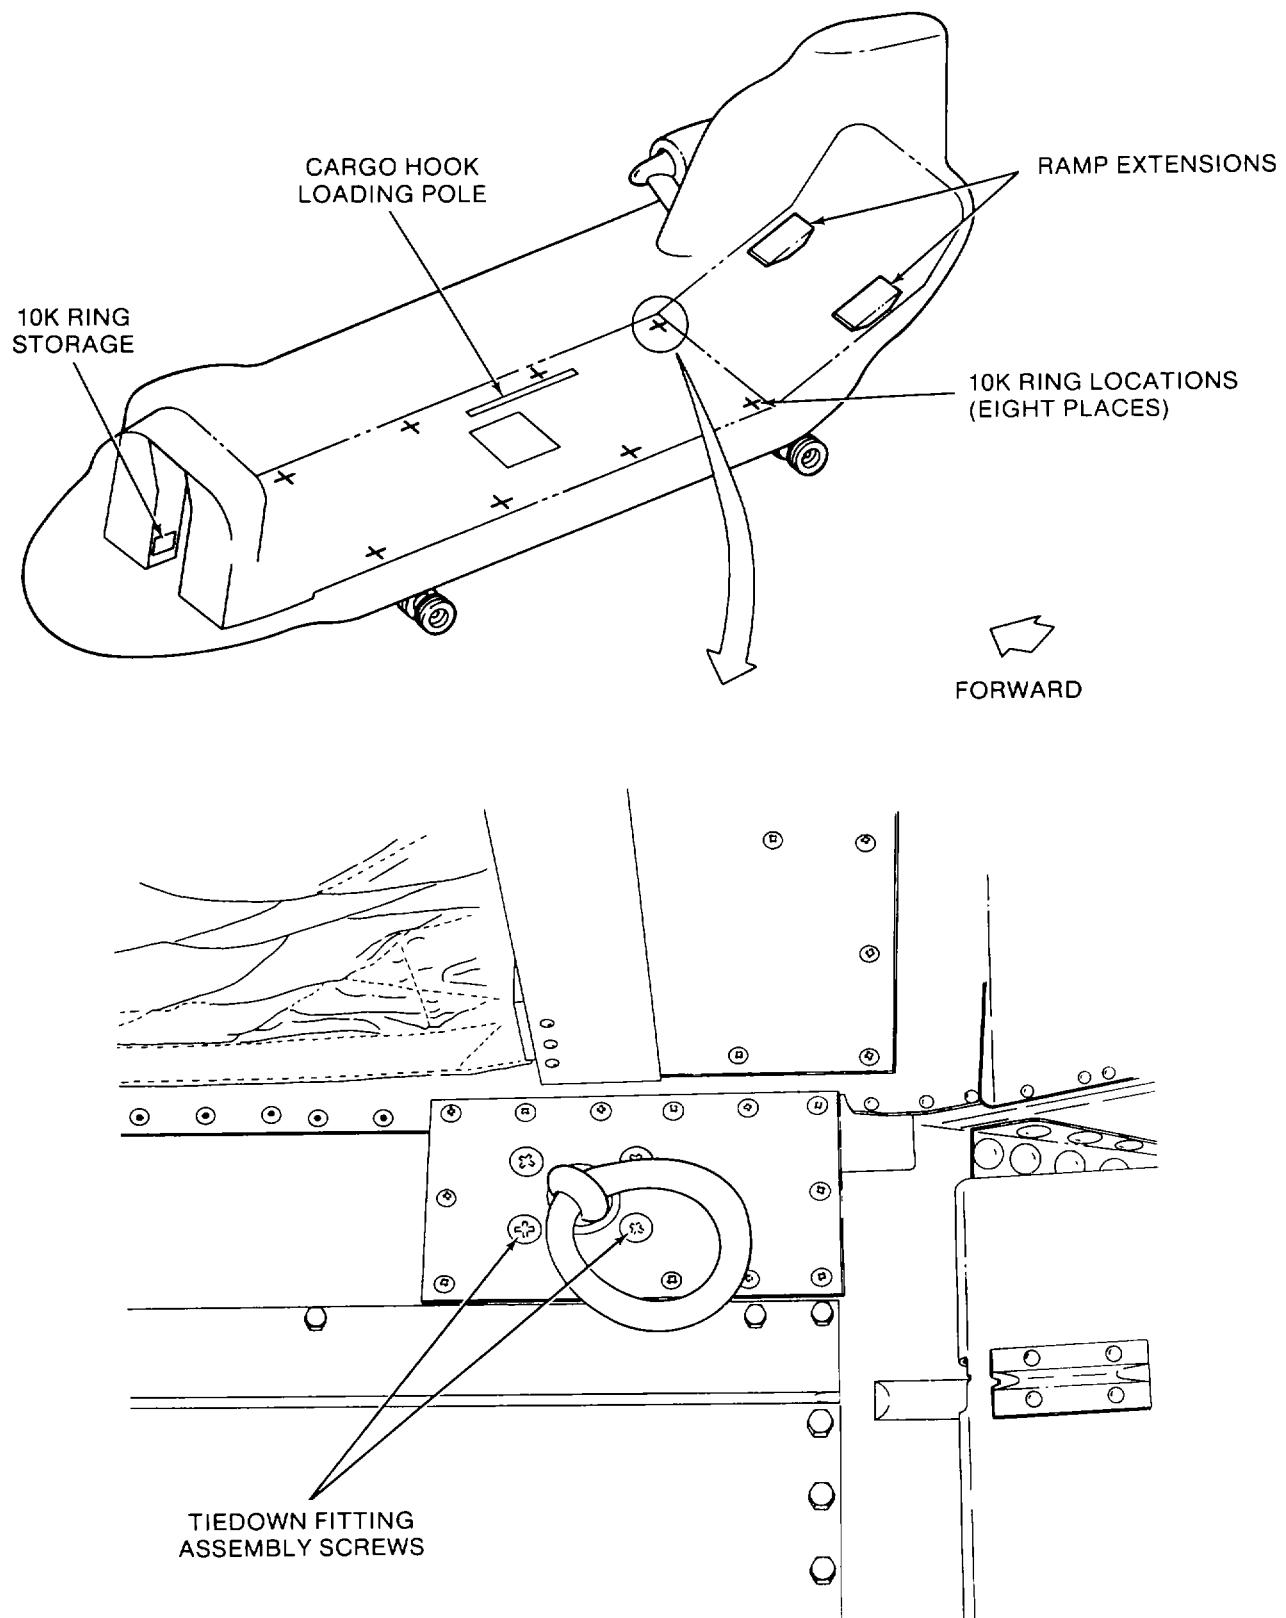
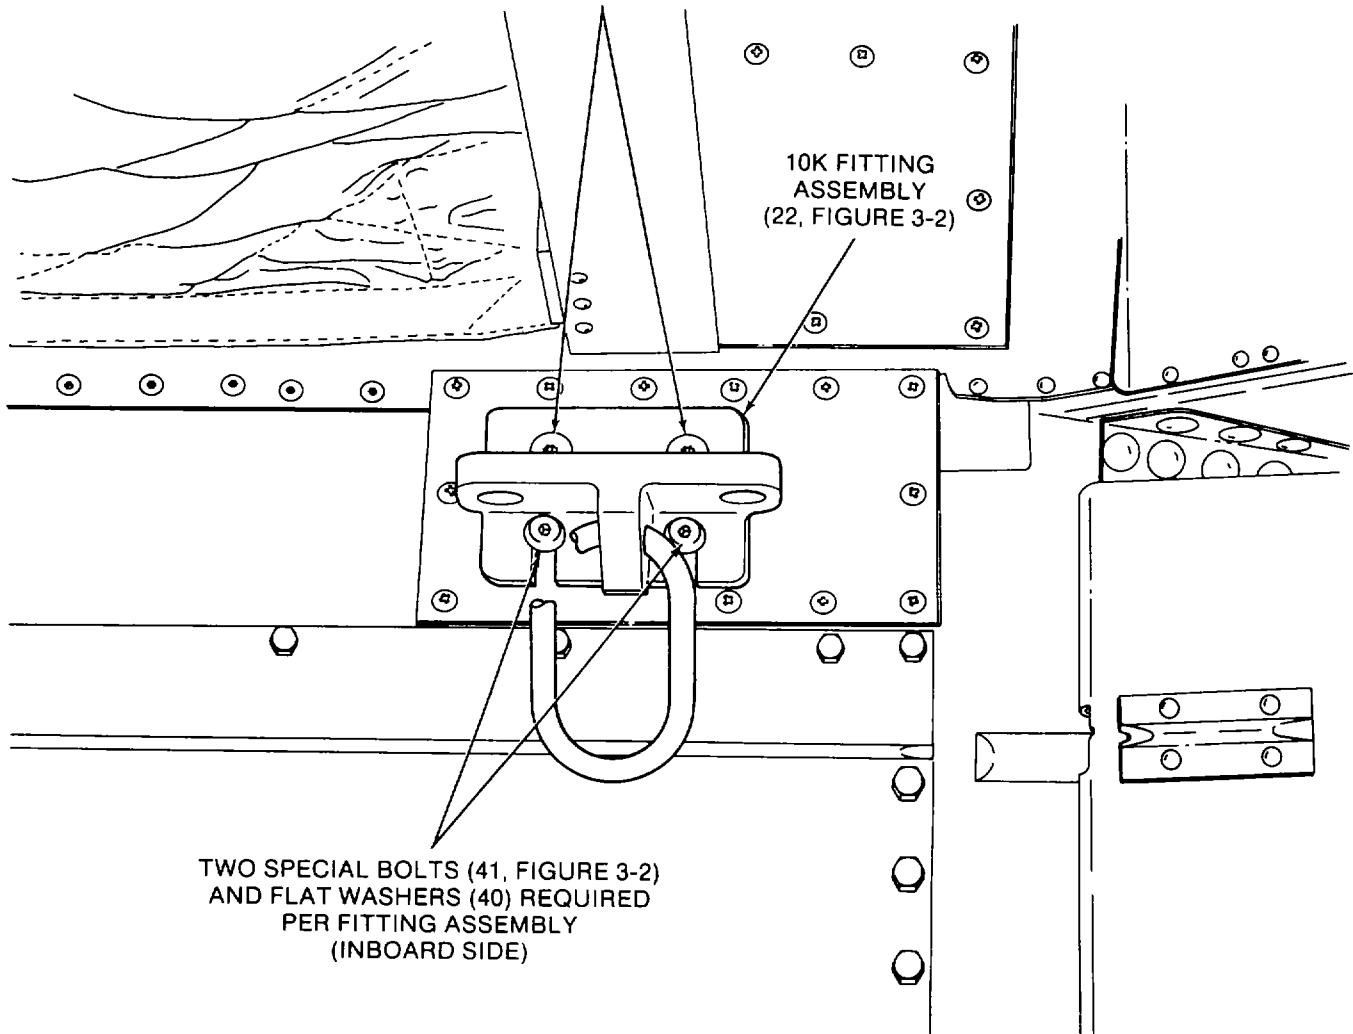

Figure 2-3. 10k Ring Locations
Figure 2-4. 10k Fitting Assembly Installed
(1) A new cargo handling system has just been installed.
(2) A cargo system has been removed from storage and installed.
(3) A system has been idle in an out-of-service aircraft.
(4) Maintenance has recently been performed and the system has not been inspected.
(5) A system appears to function improperly.
b. *Inspection Criteria.* A general inspection should be accomplished for any one of the reasons indicated in paragraph 2-4a. Inspect regularly to maintain the Helicopter Internal Cargo Handling System in good working condition. Make certain that all components shown in the table are accounted for in either the installed or stowed locations as applicable. (Refer to Table 2-1.) Then inspect the system against Figures 2-4 through 2-21 to make certain that all system components are properly installed. Check outboard rail/roller assemblies (1 through 6, Figure 3-2), inboard guide/roller assemblies (9 through 12), inboard ramp/roller assemblies (13 and 14), ramp guide rail/roller assemblies (7 and 8), and ramp extension roller assembly (15) for cracks or breaks. No cracks or breaks are allowed.
(2) Remove eight 10k rings by unscrewing from fitting assemblies (Figure 2-3).
(3) The four screws securing each 10k tiedown fitting assembly (Figure 2-3) should be removed. Remove one of the inboard screws holding the 10k tiedown fitting assembly. Install one of the two special bolts (41, Figure 3-2) and flat washer (40) to keep the tiedown adapter aligned with holes.
(4) Remove the remaining screws holding the 10k tiedown fitting assembly. Stow the 10k rings and screws in a secure place aboard the aircraft (Figure 2-3).
(5) Install eight 10k fitting assemblies (22, Figure 3-2) at the eight locations from which the 10k rings and screws were removed in Figure 2-3 and steps 2-8b.(2) through 2-8b.(4). Proceed as shown in Figure 2-4. Install inboard special bolts (41, Figure 3-2) and flat washers (40) finger tight. Slide 10k fitting assembly (22) into position (under the washers and bolts) through the open slots of the 10k fitting assembly. After 10k fitting assembly (22) is in place, insert 12-point bolts (39) and flat washers (40) and then tighten all four bolts.
(6) Install outboard rail/roller assemblies (1 through 6) according to the following steps. This procedure is typical for all outboard rail/roller assemblies.